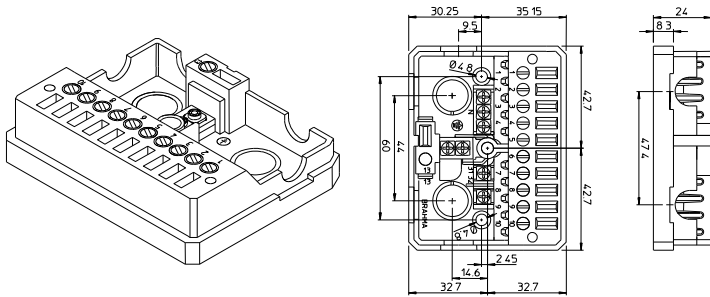
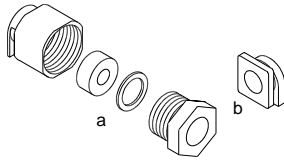

Fig. 2
Fig. 3
The accessories as connecting sockets and core hitches are supplied upon request for controller wiring. The following figures show connecting socket MOG type (Fig. 2) and core hitches (Fig. 3).
- In order to maintain the IP40 protection degree the device must be connected to the MOG socket (fig. 2) with core hitches (fig. 3);
To order accessories (fig. 2 and 3), see to the following codes:
- socket MOG type code 18210121 (fig. 2);
- core hitches code 18210200 (fig. 3 a);
- core hitches code 80536550 (fig. 3 b).